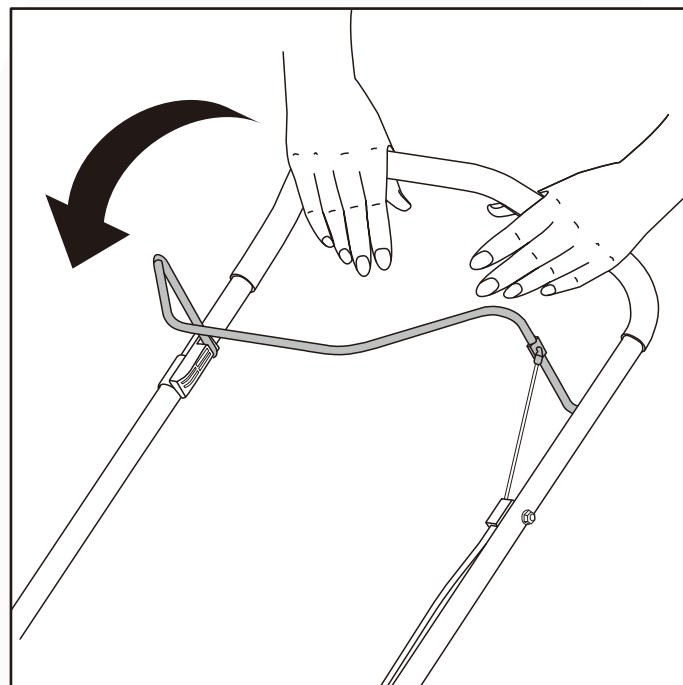

Fig.10B
2. Release the lever to stop the auger. (Fig.10B)